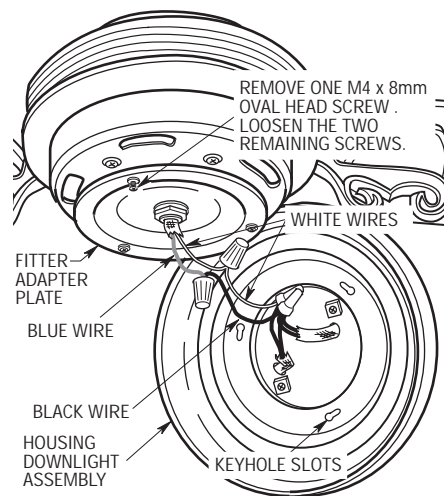

Figure 13
7. Engage the connectors of the housing downlight assembly with the connectors of the motor assembly (black to blue; white to white) (Figure 13).